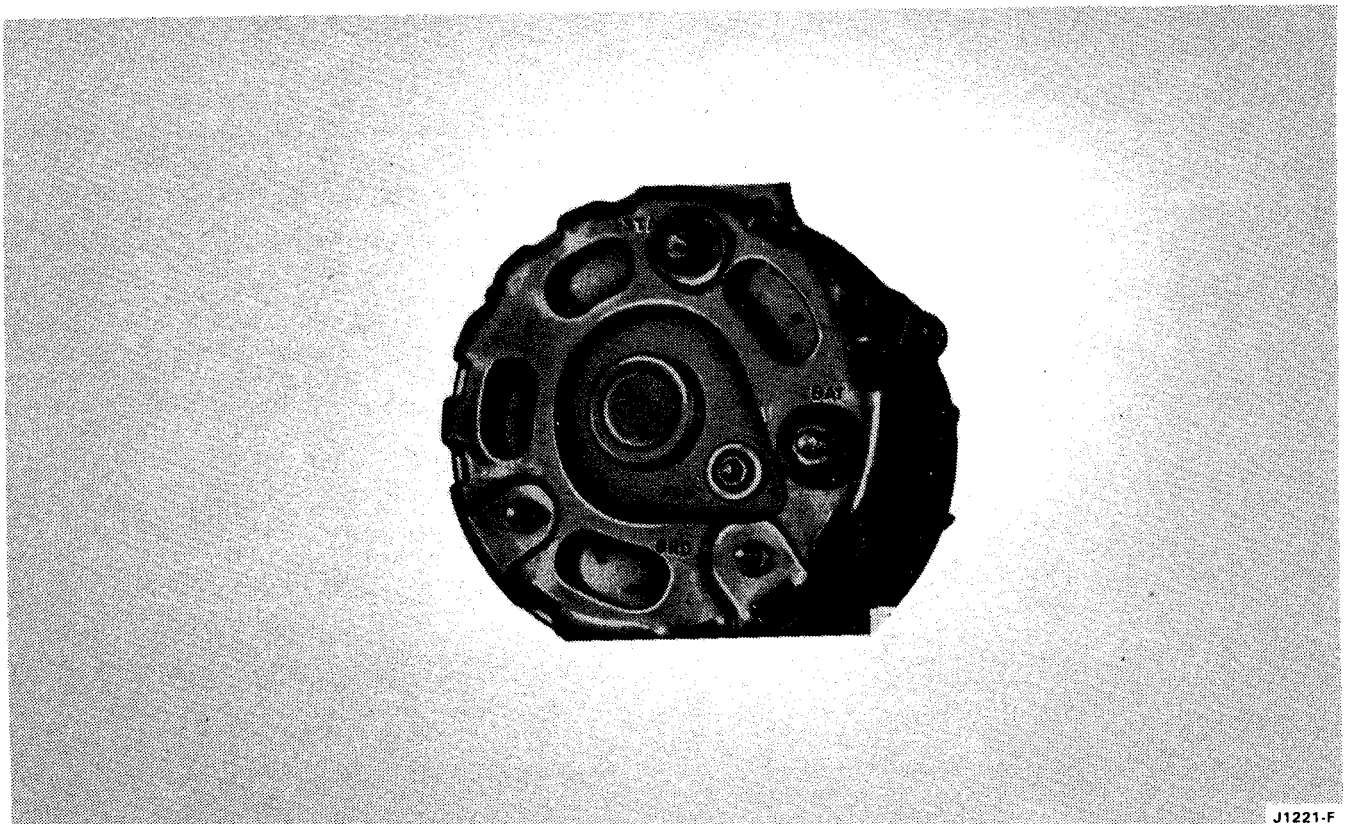

FIG. 23 Alternator Terminal Locations
- BAT (red), and FLD (orange) insulators on the terminal bolts, and install the retaining nuts (Fig. 23).